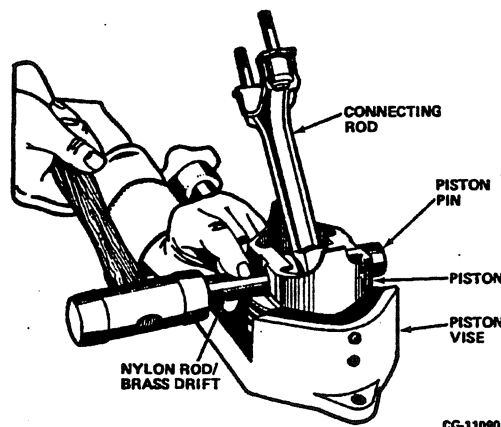

Figure 5.17. Removing Piston Pin
3. Insert piston in any suitable vise (piston O.D. must be protected from damage) and drive piston pin (Figure 5.17) from piston and rod assembly using a nylon rod or brass drift and a soft hammer.